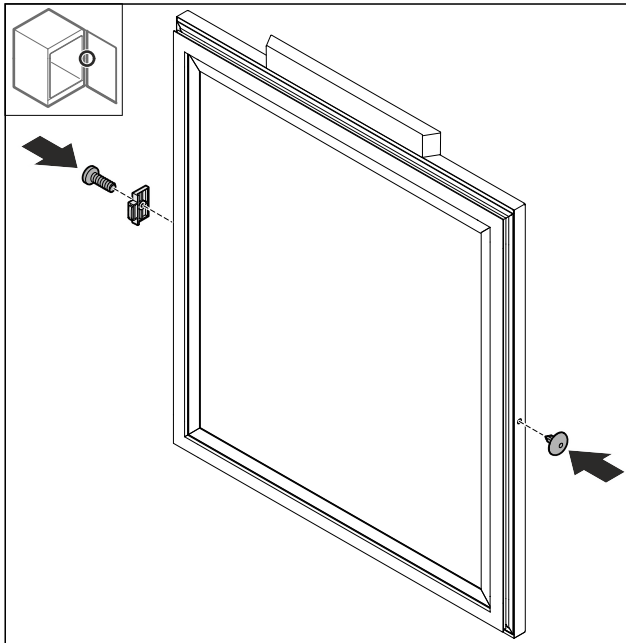

Fig. 70
- ▶ Mount the door stopper Fig. 70 (1) turned by 180° on the opposite side.
- ▶ Insert the cover Fig. 70 (2) on the opposite side.